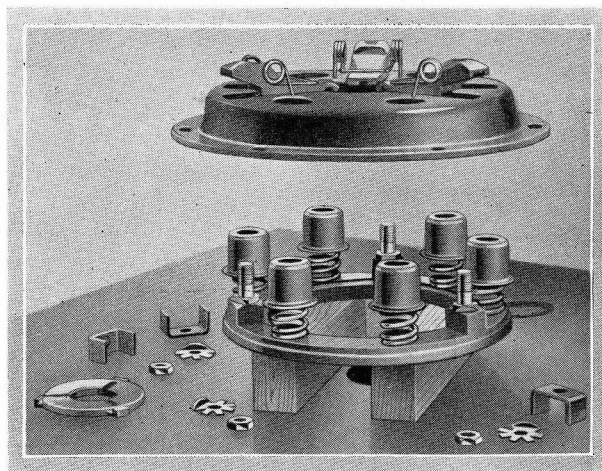

Fig. 48.
locating bosses on the pressure plate. Now place the spring cups over their outer ends, as shown in Fig. 48.
3. The cover can now be laid on top of the assembled parts, as shown in Fig. 48, taking care that the machined portions of the pressure plate lugs are directly underneath the slots formed in the clutch cover.